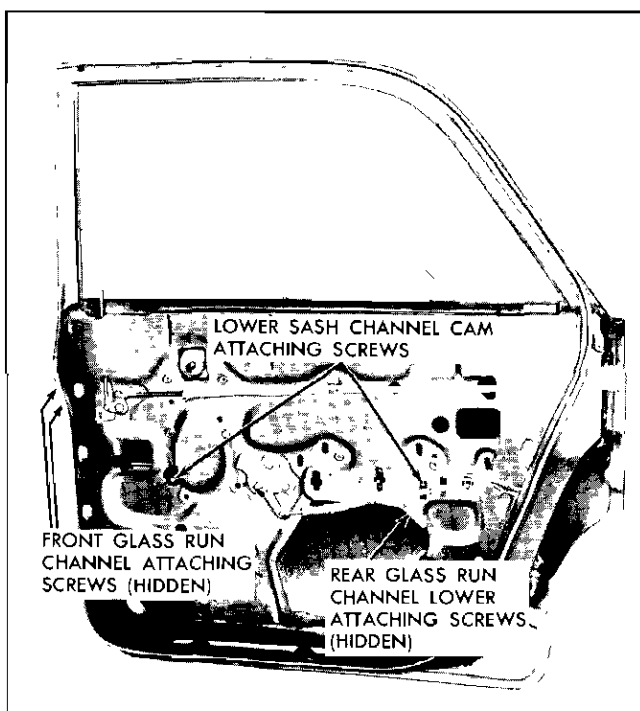

Fig. 2-35 Rear Door—69 Styles
2. On 35, 45 and 69 styles, through large access hole, remove screw securing lower end of glass run channel at door lock pillar and raise end of channel to expose lock assembly (Fig. 2-35).
3. On 35, 45 and 69 styles, through large access hole remove screw securing lower end of glass run channel at door lock pillar to gain access to spring clip securing rod to lock (Fig. 2-35).
3. On 35, 45 and 69 styles, through large access hole, remove glass run channel lower attaching screw at lock pillar to gain access to spring clip securing rod to lock (Fig. 2-35).